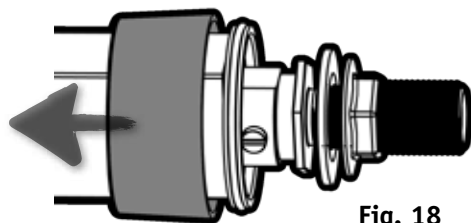

Fig. 18
- 2) Slide the **ISOLATION COVERS 4** away from the **THREAD TAILS 3** to expose the **ISOLATION VALVES 5** (**Fig. 18**)